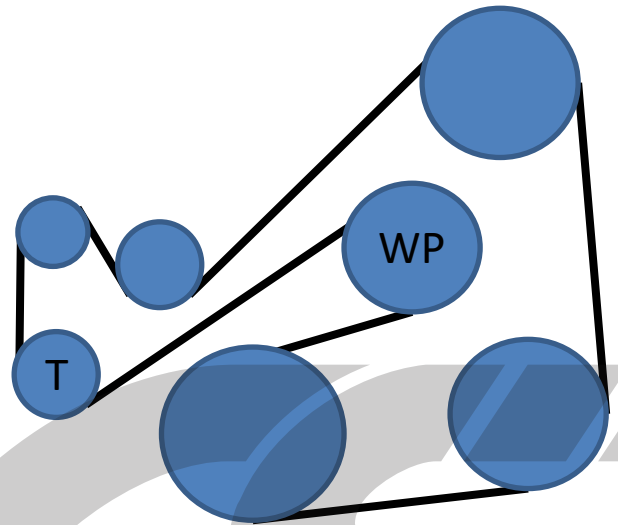

Figure 7m
- s) **Install the serpentine belt.** Guide it through the pulleys leaving the water pump last (marked WP in **Figure 7m**). Turn the tensioner (T) clock wise with a 14mm wrench and slip the belt over the water pump pulley.